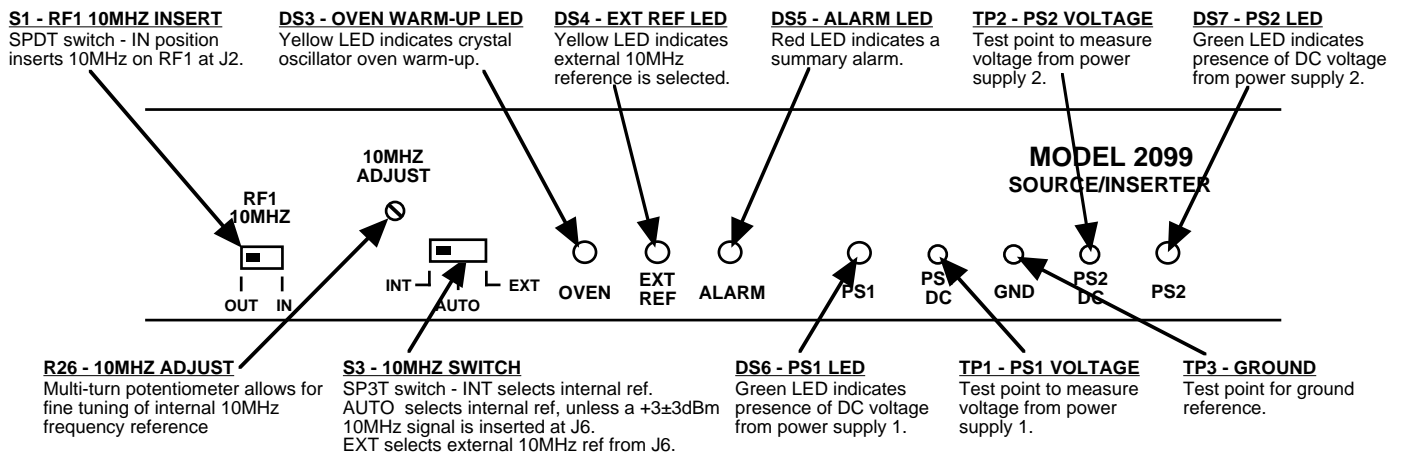

FIGURE 2.3 Front Panel Controls and Indicators
Figure 2.3 shows the front panel controls and indicators.
5. Select which reference mode to use (INT, AUTO, or EXT) using SP3T switch, S3 (Fig. 2.3).
6. Select whether or not to insert 10MHz on RF1 and make selection using SPDT switch, S1 (Fig. 2.3).
8. Adjust the internal reference, if needed, using the 10MHz ADJUST potentiometer (Fig. 2.3).
12. Be sure DS6 (PS1 DC, green) and DS7 (PS2 DC, green) are on (Fig. 2.3).
13. Monitor PS1 and PS2 voltage levels using provided test points (Fig. 2.3).
14. Wait for DS5 (OVEN, yellow) to go off to insure that the oscillator oven is stabilized (Fig. 2.3).